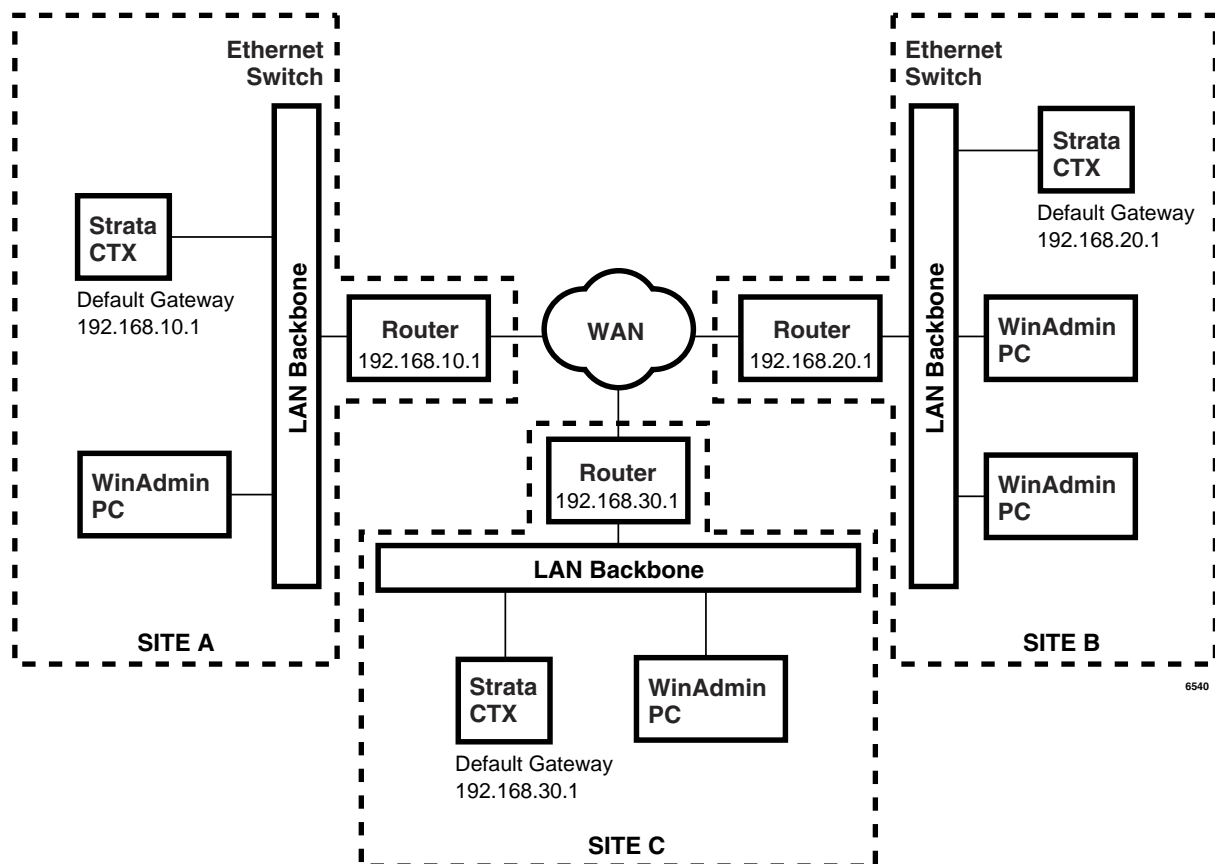

Figure 3-3 WAN Connection for Multiple Sites
- To setup CTX WinAdmin WAN and Internet connections using Dynamic Host Configuration Protocol (DHCP), Virtual Private Networks (VPN), etc., the proper IP addresses and setup procedures must be obtained from your Information Technology (IT) Administrator.
- The default gateway IP address must be set up on CTX WinAdmin and on CTX processors per the example in Figure 3-3. The figure below shows you how to connect the multiple CTX sites via the WAN.